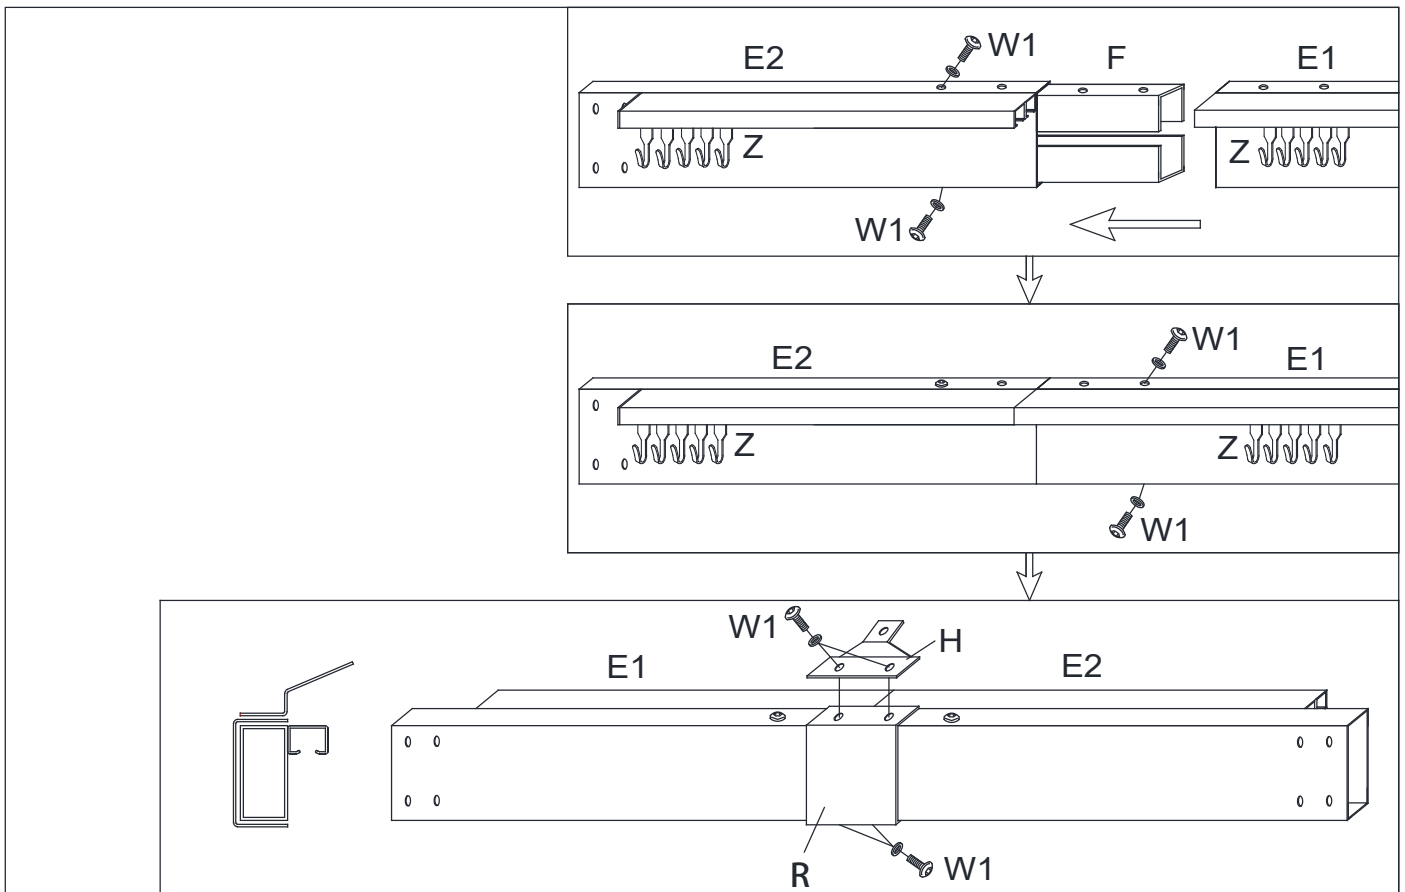

Fig.2
2. Place the Hook (Z) into the track of the Lintel (E1/E2). Attach Left Lintel (E1) and Right Lintel (E2) to Connector (F) with Bolt (W1). At the same time, attach Connection Piece (H) to Lintel (E1/E2) with Bolt (W1). Attach the Lintel Cover (R) to Connector (F) with Bolt (W1). See Fig.2.